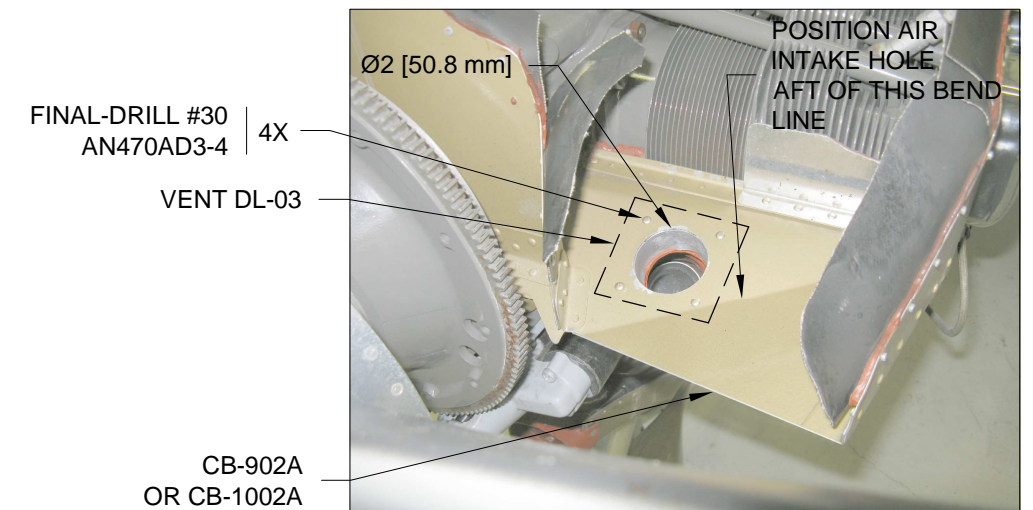

FIGURE 1: AIR INTAKE HOLE LOCATION
Step 2: Clamp, then final-drill #30 the holes in the VENT DL-03 Scat Tube Flange to the CB-902A or CB-1002A Forward Left Air Ramp as shown in Figure 1.
Step 3: Rivet the VENT DL-03 Scat Tube Flange and VENT SCREEN 3X3 (optional) to the CB-902A or CB-1002A Forward Left Air Ramp as shown in Figure 1.